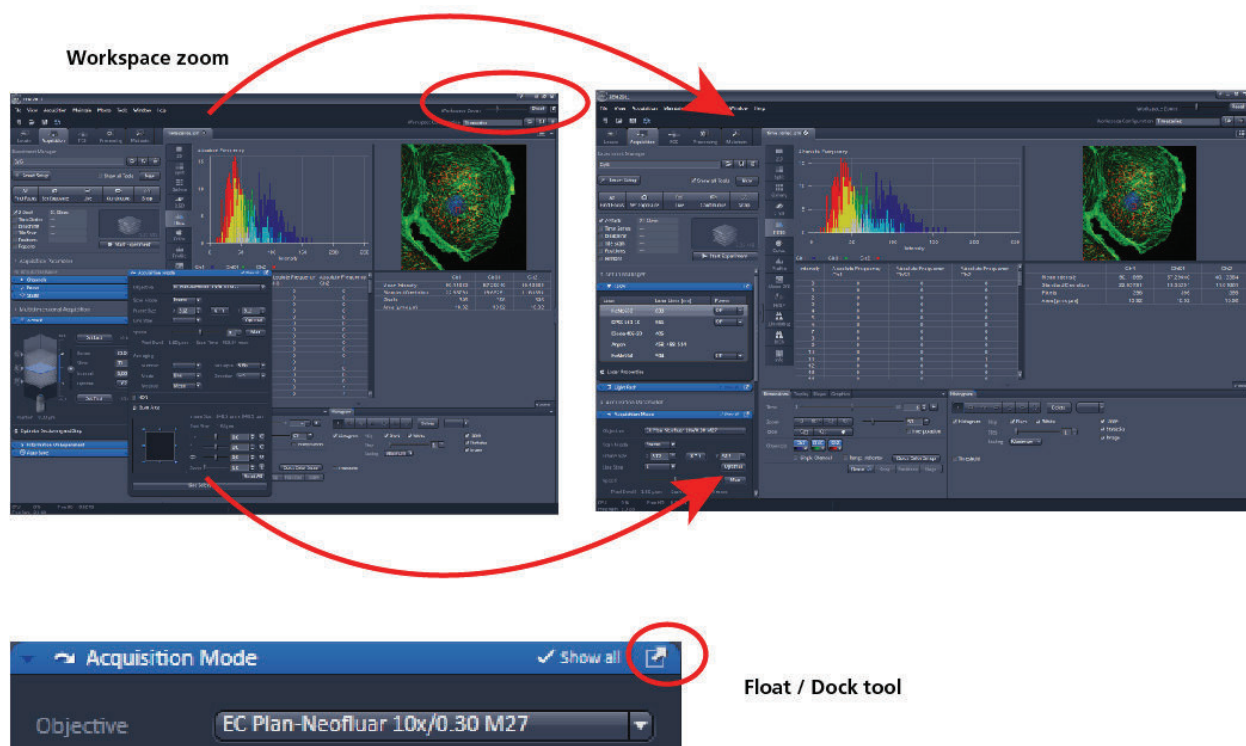

Fig. 7 ZEN Window Layout configuration
- The user can add more columns for tools to the **Left Tool Area** or detach individual tools to position them anywhere on the monitor. To add a column, drag a tool group by the title bar (e.g., Online Acquisition) to the right and a new tool column automatically opens. Alternatively use the context menu "move toolgroup to next column". To detach a tool, click on the little icon on the very right end of the blue tool header bar (Fig. 7).
- Another unique feature in Imaging software is the scalable ZEN interface. This **Workspace Zoom** allows adjustment of the **ZEN 2011** window size and fonts to the situational needs or your personal preferences (Fig. 7).